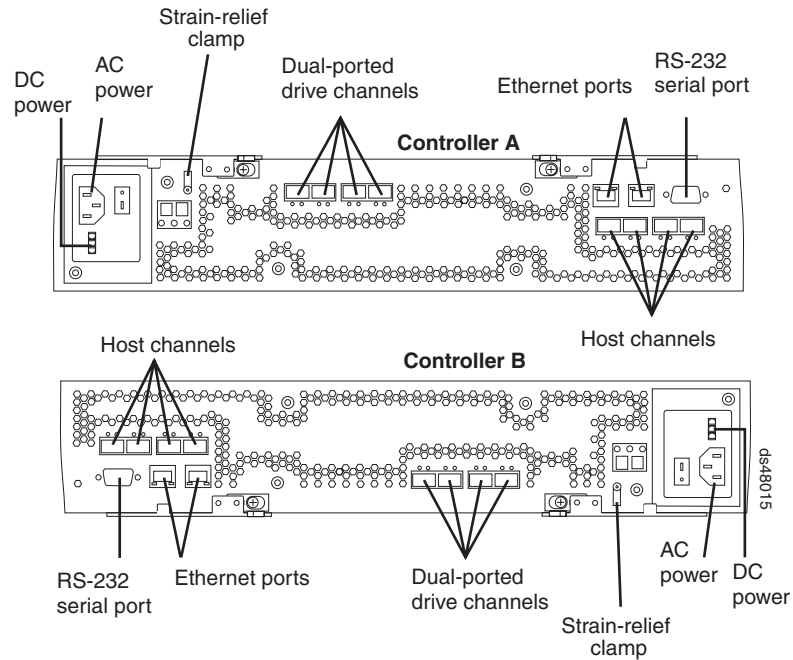

Figure 88. Connectors on the back of each controller
7. Disconnect all attached interface cables from the failed controller, including the SFP modules. Ensure that you label each cable so that you can reconnect them correctly to the new controller. Figure 88 on page 149 shows the location of the connectors on the back of a controller.